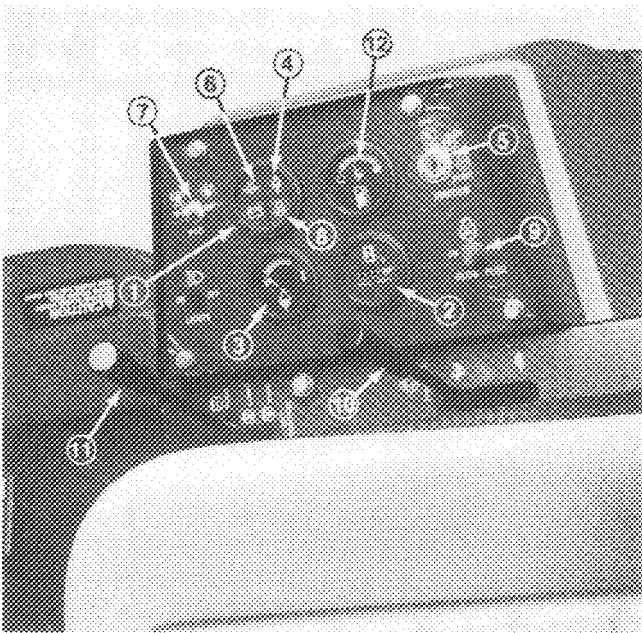

Figure 22
Amp Light (Fig. 22) — The amp light should be off when engine is running. If it is on, the charging system should be checked and repaired if necessary.
Hour Meter (Fig. 22) — Accumulated engine operating time registers on the hour meter.
Temperature Gauge and High Temperature Light (Fig. 22) — The coolant temperature gauge registers the coolant temperature in the system. If the temperature gets too high the engine will automatically shut off and the High Temperature Shutoff Light will light. When this happens, turn the ignition key off, check radiator for debris, check the fan belt and check the expansion tank for proper coolant level. The high temperature shutoff will automatically reset when the coolant temperature has reached a safe level.
Low Oil Pressure Light (Fig. 22) — If engine oil pressure falls below a safe level, the light glows. Stop engine and repair before resuming operation.
PTO Switch (Fig. 22) — Pull up on sleeve on toggle switch handle and move handle to ON to ENGAGE electric PTO clutch. Pull up on sleeve and move handle to OFF to DISENGAGE electric PTO clutch. The only time the PTO switch should be in the ENGAGE position is when the implement is down in operating position and ready to begin operation.
Ignition Key Switch (Fig. 22) — The ignition switch, which is used to start and stop the engine, has three
Glow Plug Switch and Indicator (Fig. 22) — Use to preheat engine cylinders prior to cold engine starting procedures — cylinders are preheated automatically during warm engine start operation. For cold starting, push switch lever upward and hold while watching indicator. Indicator will glow orange when the glow plugs are activated. Length of time necessary to preheat cylinders should be determined by atmospheric temperature; refer to Starting /Stopping Engine procedure.
Throttle (Fig. 22) — Throttle is used to operate engine at various speeds. Moving throttle forward increases engine speed — FAST; rearward decreases engine speed — SLOW. The throttle controls the speed of the cutter blades and, in conjunction with traction pedal, controls ground speed of the traction unit.
Hydraulic Lift Lever (Fig. 22) — The hydraulic lift lever has three positions: FLOAT, TRANSPORT and RAISE. To lower cutting unit to the ground, move lift lever forward into notch in seat platform — FLOAT. The FLOAT position is used for mowing and when machine is not in operation. To raise cutting unit, pull lift lever rearward to the RAISE position. After cutting unit is raised, allow lift lever to move to the TRANSPORT position. Cutting unit must be raised when driving from one work area to another.
1. Ensure parking brake is set, PTO switch is in OFF position and lift lever is in TRANSPORT or FLOAT position (Fig. 22). Remove foot from traction pedal and insure it is in neutral.
2. Move throttle control (Fig. 22) to full FAST position.
3. When temperature is below 15°C (60°F), push glow plug switch to ON position (Fig. 22) and hold for suggested interval.
4. Turn key in ignition switch to START position (Fig. 22). Release key immediately when engine starts and allow it to return to RUN position. Move throttle control to SLOW position.